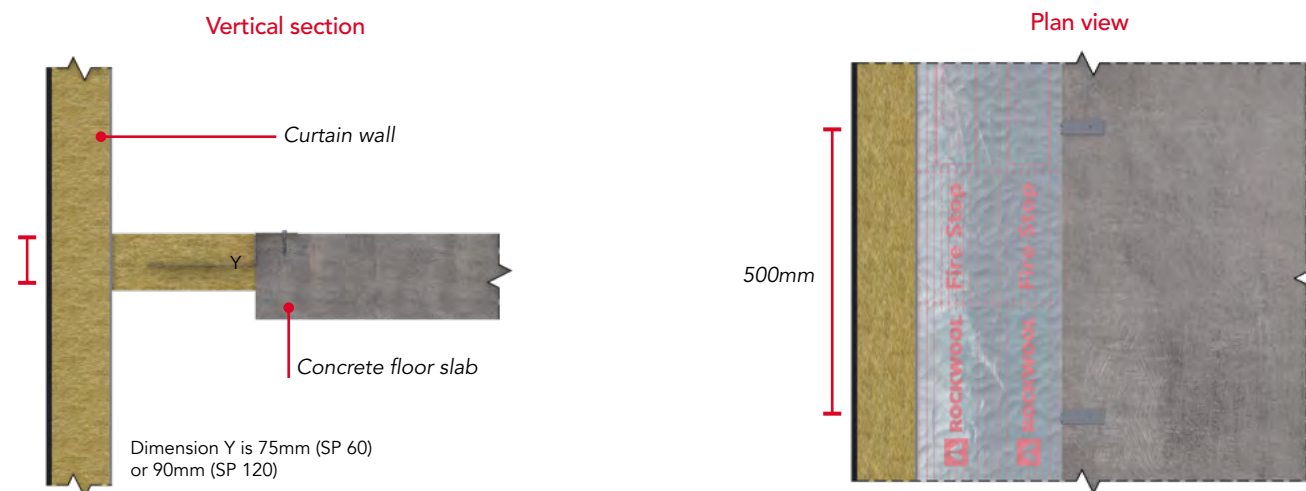

Figure 4
ROCKWOOL SP Firestop Slabs are designed for cutting on site with a sharp knife or saw and a straight edge. The cavity to be fire stopped should be measured and the ROCKWOOL SP Firestop Slab cut to suit this dimension, using one piece only per gap width - see Figures 4 and 5.
2. The ROCKWOOL SP60 or SP120 Firestop Slab is impaled onto the SP Fixing Brackets at the rate of 2 per 1000mm length, fixed at 500mm \pm 10mm centres as shown in Figure 4. The SP Fixing Brackets should be placed 250mm \pm 10mm in from each end of the ROCKWOOL SP Firestop Slab.